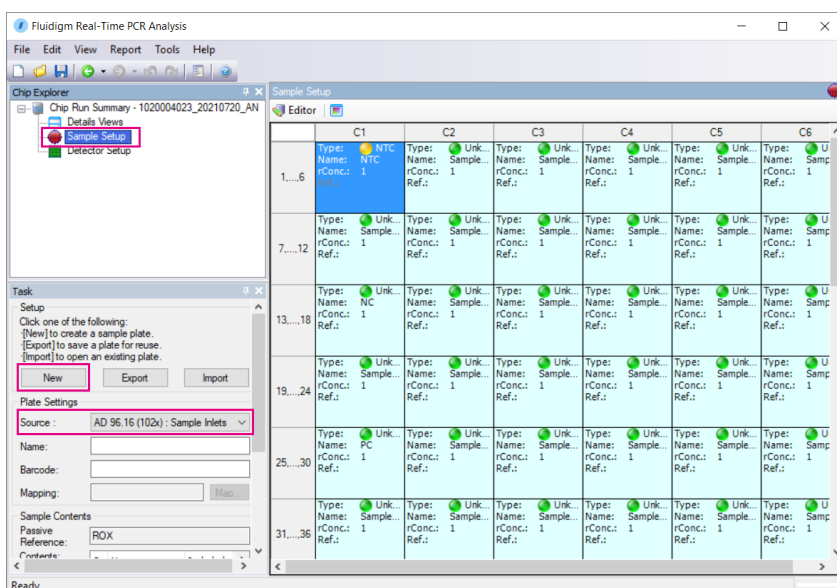

Figure 17. Sample Setup pane
- 3 Annotate the samples for the first analysis of a new IFC run (Figure 17):